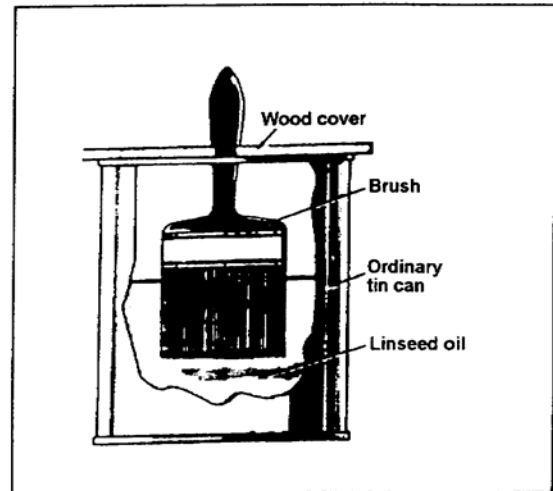

Figure 3-34. Placing a paintbrush in a paintbrush keeper for overnight storage
(2) Overnight. Paintbrushes that are used daily should be kept overnight in a paintbrush keeper (Figure 3-34). Immersing cleaned paintbrush bristles in the proper oil solvent ensures that the bristles will remain soft and pliable. For paintbrushes used in oil-based paint or varnish, use linseed oil in the keeper; for paintbrushes used in lacquer, use lacquer thinner; and for paintbrushes used in shellac, use alcohol. Use enough solvent material to cover the bristles of paintbrushes in the keeper, and remember that brushes in the keeper should not touch the bottom of the keeper or each other.